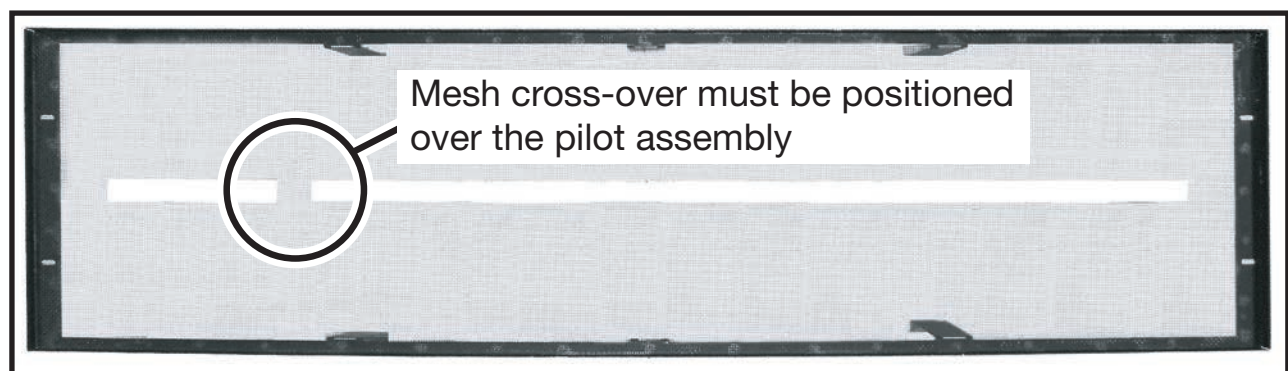

Figure 15: Glass media tray.
15. Place glass media tray over top of the burners so that its legs rest on the secondary floor. The side of the tray with the mesh strip crossing over from one side to the other must be positioned over top of the pilot assembly. Screw down the ends of the tray to the ledge of the side panels - two on each side (Figure 15).